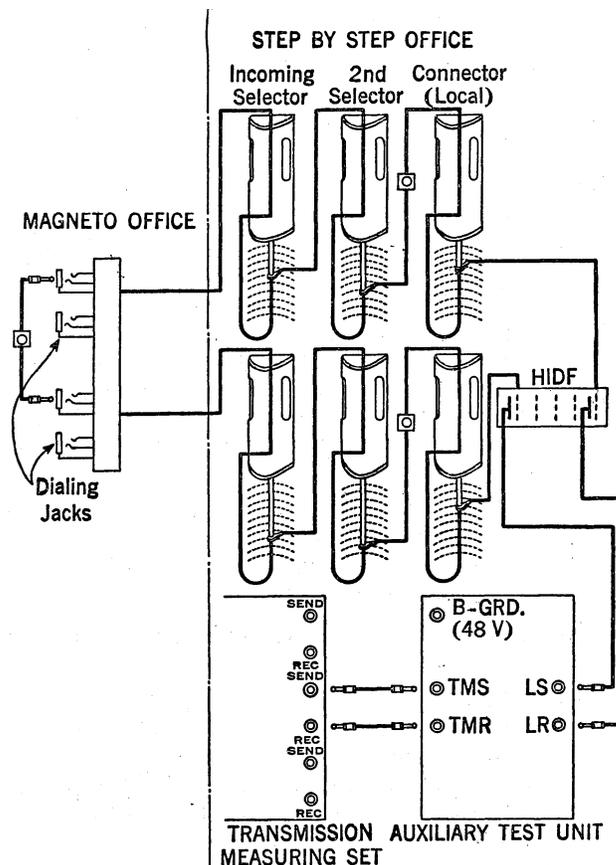

Figure 1
- 2.03 Figure 1 shows schematically the connections for the test.